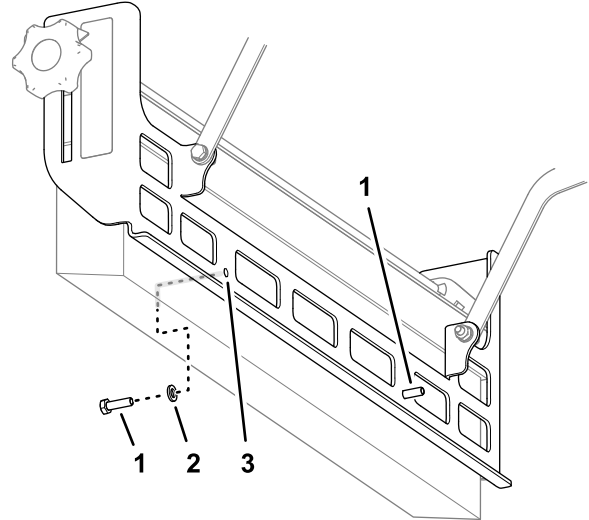

Figure 10
1. Assemble a capscrew (6 x 20 mm) and washer (6 mm) through the hole in the brush mount (Figure 10).
2. Assemble the other capscrew (6 x 20 mm) and washer (6 mm) through the other hole in the brush mount (Figure 10).